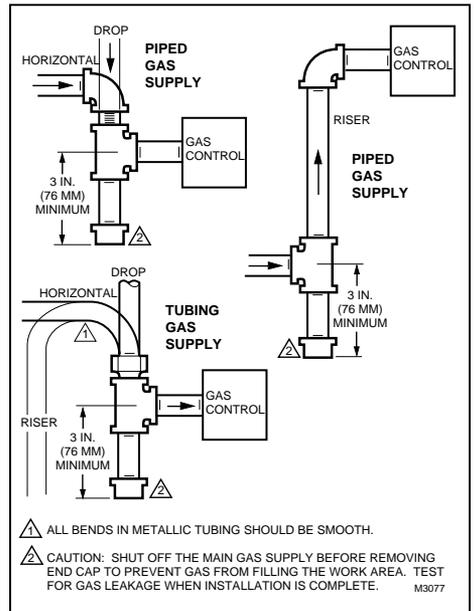

FIG. 2—SEDIMENT TRAP INSTALLATION.
3. Install sediment trap in the supply line to the gas control. Refer to Fig. 2.